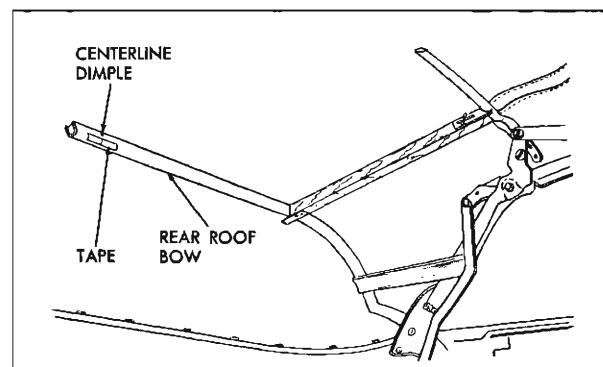

Fig. 21-50 Marking Rear Roof Bow
27. Along forward surface of rear roof bow install a 1" piece of tape at centerline dimple of rear roof bow. Using a pencil, mark centerline of rear bow on tape (Fig. 21-50).
NOTE: The deck seam mark will vary slightly ($\pm \frac{1}{4}$ ") depending upon position of rear roof bow. Also check centerline mark on inner lining of top material. Mark should correspond to centerline mark on rear roof bow (see Fig. 21-50).